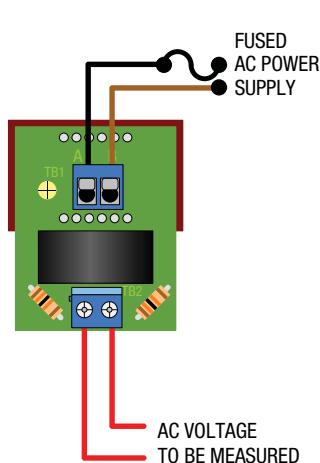
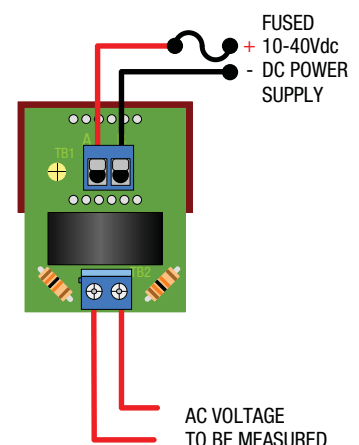

Figure 1A.
Figure 2.
- Power Supply Polarity, Fusing, and Grounding:** As shown in Figures 1A, 1B, and 2, the two power supply inputs, TB1-A and TB1-B, on ac-powered DMS-20RM voltmeters ("-AC1" suffix) are not polarity sensitive, that is, they have no "AC LO" or "AC HI" designations. Also, ac-powered models do not include or require a connection to earth/chassis ground. DC-powered models ("-DC2" suffix) are reverse-polarity protected, and must be connected as shown in Figure 2 for proper operation.